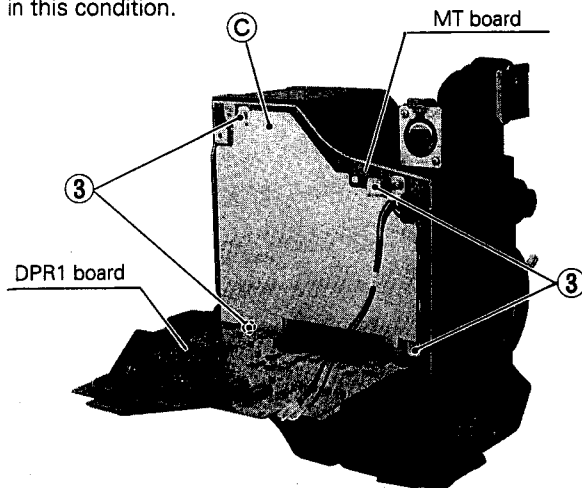

Fig. 1-4-7 DPR1 and MT Boards
- (4) Remove the 4 screws ③ and the MT board shield cover ④ before starting the diagnostics of the MT board.
- (5) The DPR1 board can be opened by 90 degrees with respect to the connected MT board as shown in Figure 1-4-7. The diagnostics of the DPR1 and MT boards can be performed in this condition.